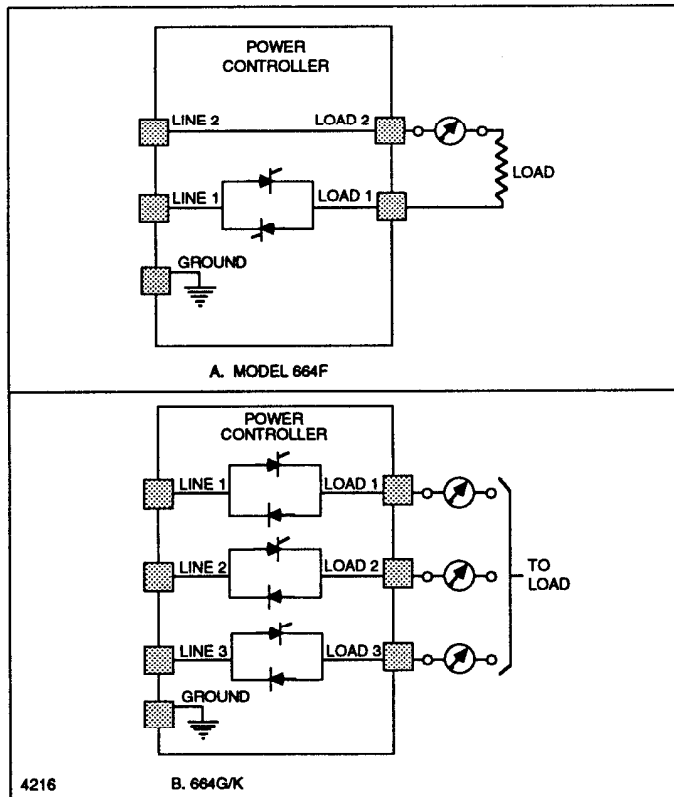

Figure 2–11. AC ammeter connections to monitor load current.
1. Connect an AC ammeter to monitor the controller's load current (figure 2–11A (for 664F) or figure 2–11B (for 664G/K).
2. Connect a milliammeter as shown in figure 2–12.